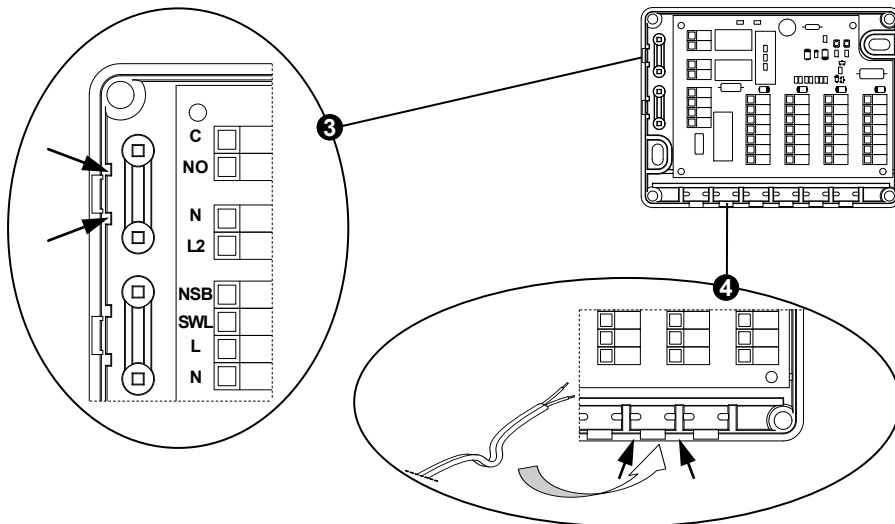

Fig. 4: Cable entry instructions.
- The cables should be folded as shown in Fig. 4 and made to pass through the cable glands ④.
If you use a cable entry and its respective cable gland, remove the plastic tab ③ in Fig. 4 with suitable pliers to open the passage for the cable.